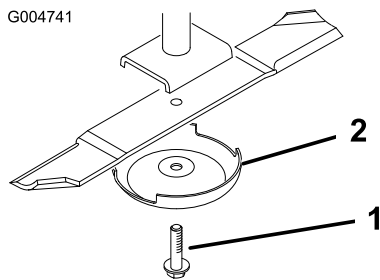

Figure 84
3. Remove the blade bolt, anti-scalp cup, and blade from the spindle shaft (Figure 84).